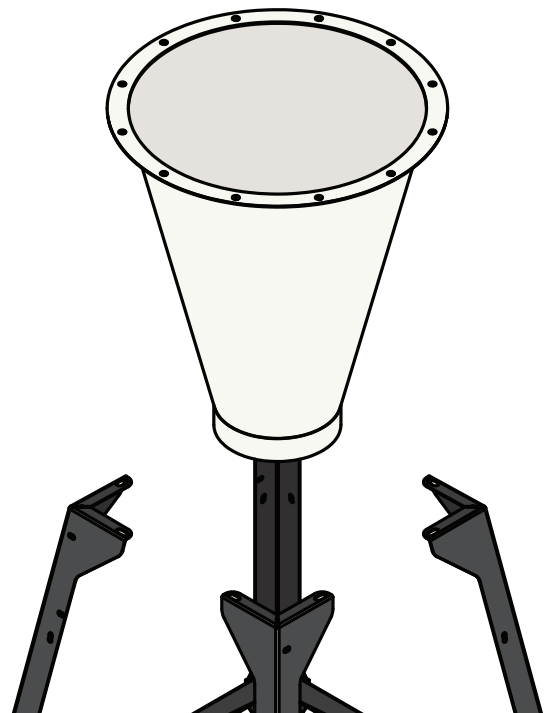

FIG. 3
Lift the Cone (D) onto the Stand (R), making sure to align the Cone's flange holes with those on the Stand [FIG 3].